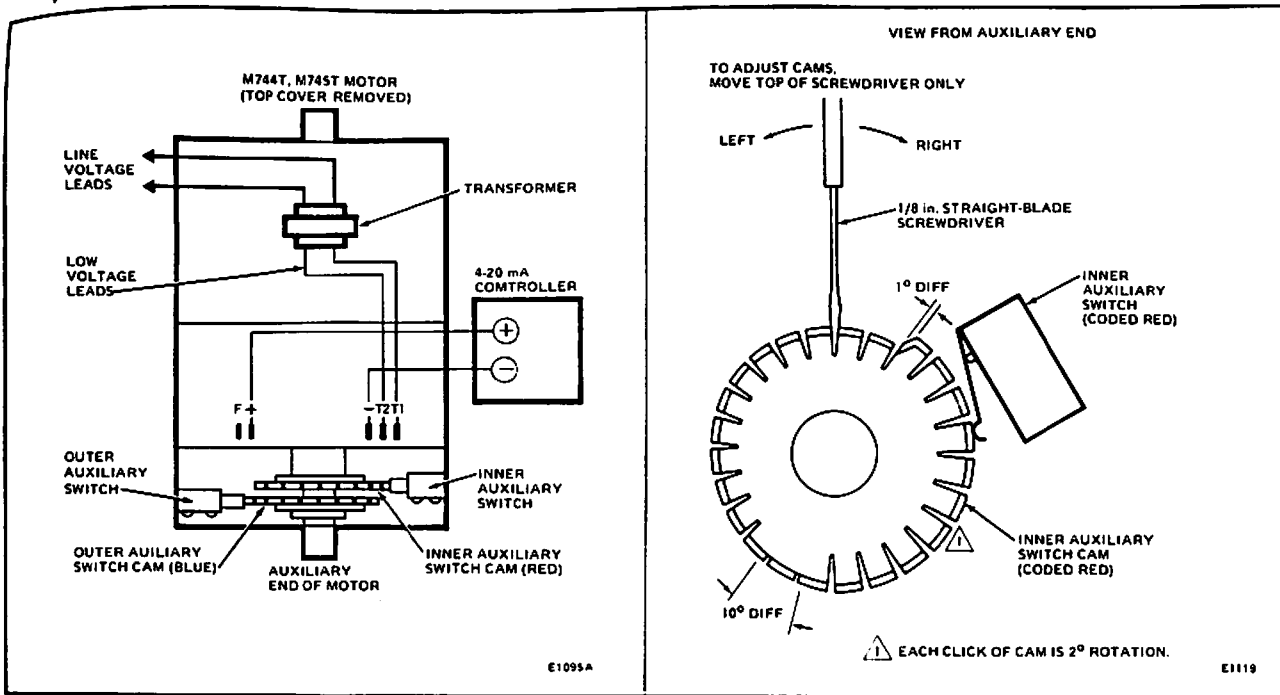

FIG. 9—AUXILIARY SWITCH ADJUSTMENT SETUP.
2. Disconnect controller from motor. Connect a current source to the (+) positive and (-) negative motor terminals. Refer to Fig. 9.
4. Insert a 1/8 inch straight-blade screwdriver into slot on cam associated with selected auxiliary switch. (See Fig. 9 for switches and associated cams). MOVE TOP OF SCREWDRIVER as far as possible and repeat in successive slots, moving cam until switch contacts make. Direction of cam adjustment depends on differential desired.